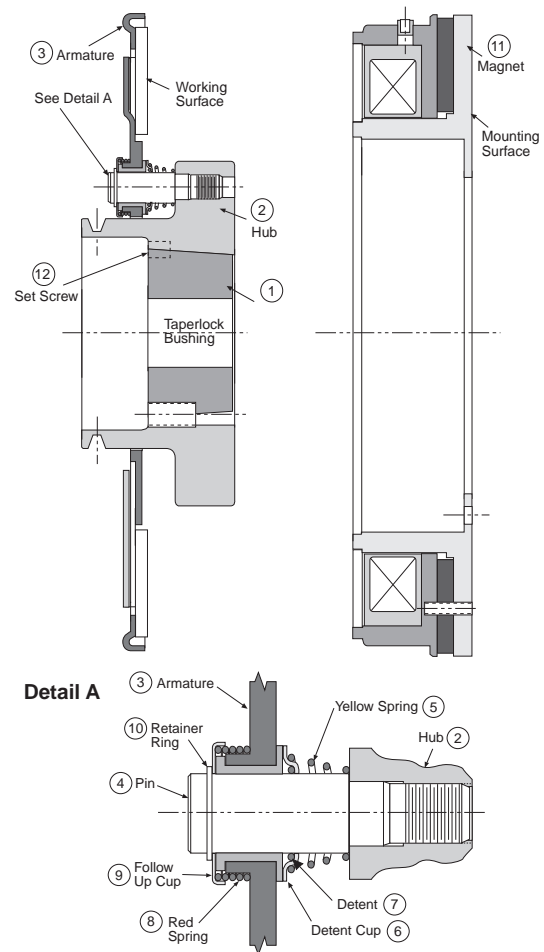

Figure 18 - Assembled brake showing item numbered components. Item numbers shown will be referenced throughout this installation procedure.
Step 1: Remove the ER brake from its shipping carton. The carton contains the magnet (Item 11) and armature (Item 3) plus mounting hardware and conduit box. (See Figure 18) Inspect the components to make sure they have not been damaged in shipping.